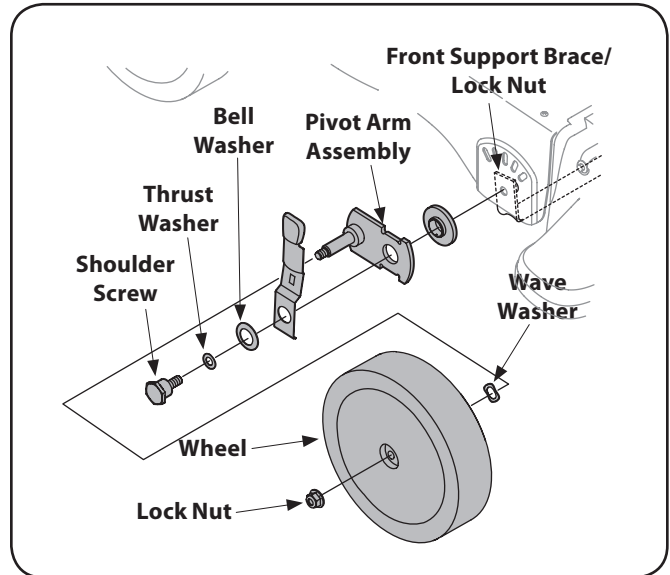

Figure 7-2
4. Remove the flange lock nuts, front wheels, and wave washers that attach to the pivot arm assemblies. See Figure 7-2.